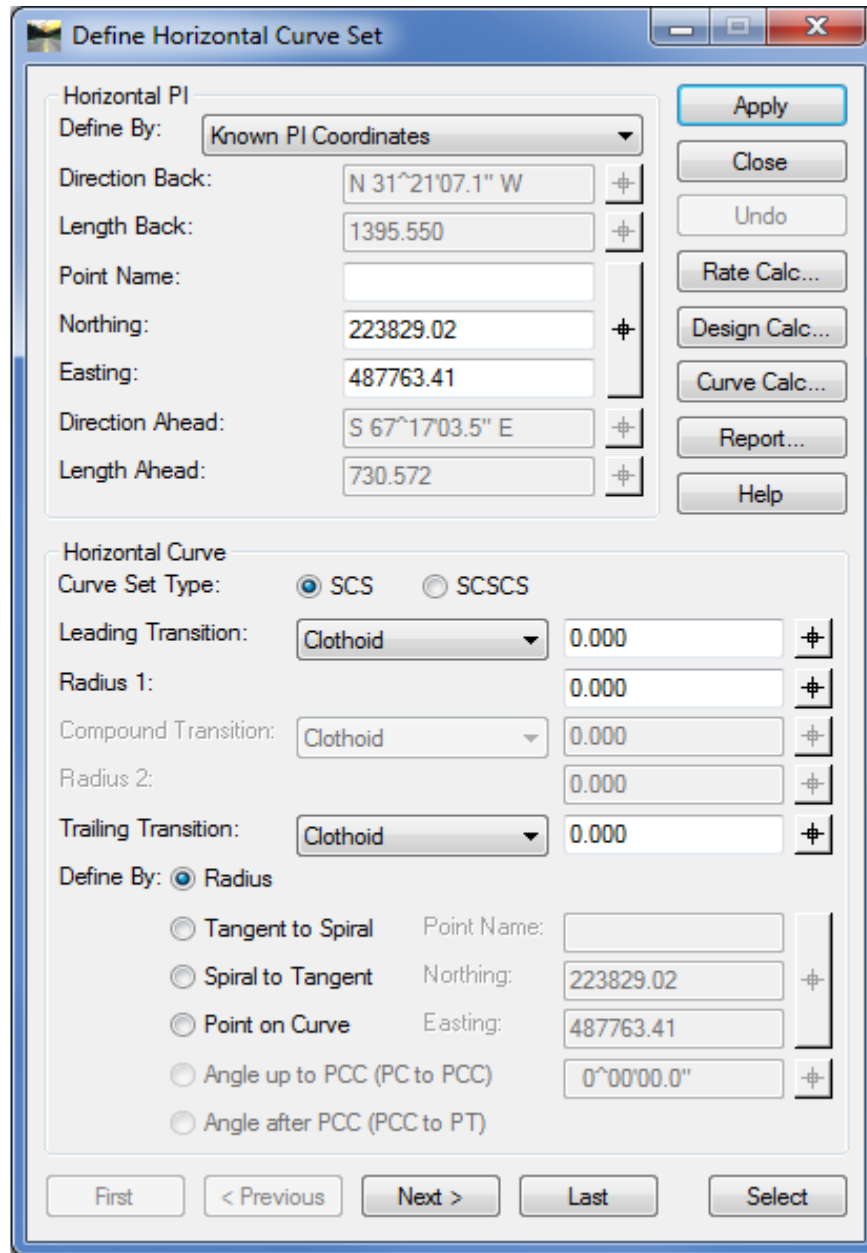

Figure 4-4 InRoads Define Horizontal Curve Set
- B. There are several options on the Define Horizontal Curve Set dialog box. Figure 4-4 shows this box, and at the bottom notice the **Next > Last** and **Select** curve navigation buttons. If users click the **Next >** button, all of the PI points will be displayed for the alignment. Within the MicroStation view, each PI tangent set is highlighted as each curve becomes the active curve.